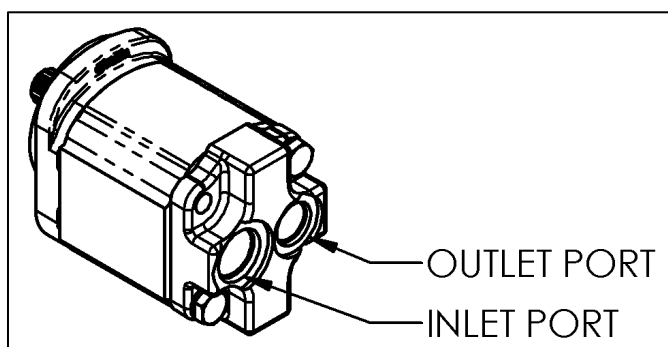

Figure 1 – Pump ports
- Figure 1 illustrates location / orientation of the pump ports.